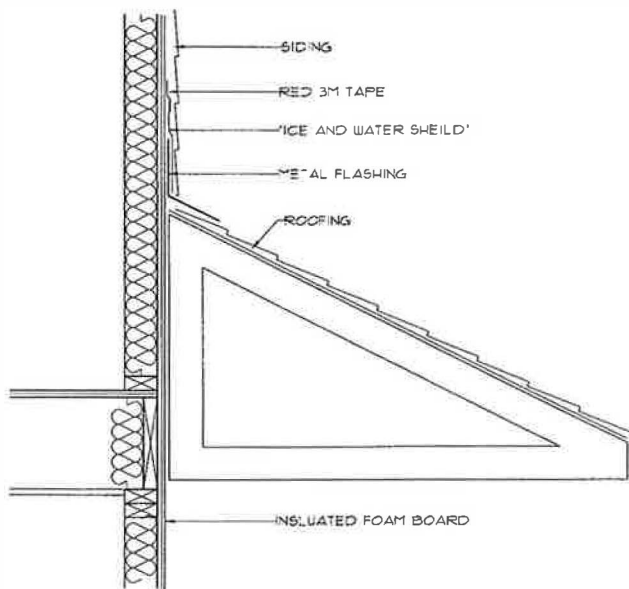

Figure 3 — Roof to Wall Flashing.
Figures 3 through 9 present some of the key details that T&C has implemented over the past two years. Over that same time period there have been some interesting changes in the way that materials are used. For example:
- The company now uses Grace Ice and Water Shield to counterflash dormers and shed roofs (see Figure 3). "The Shield forms a much more durable seal to metal flashing than tape," Pennabaker explains.